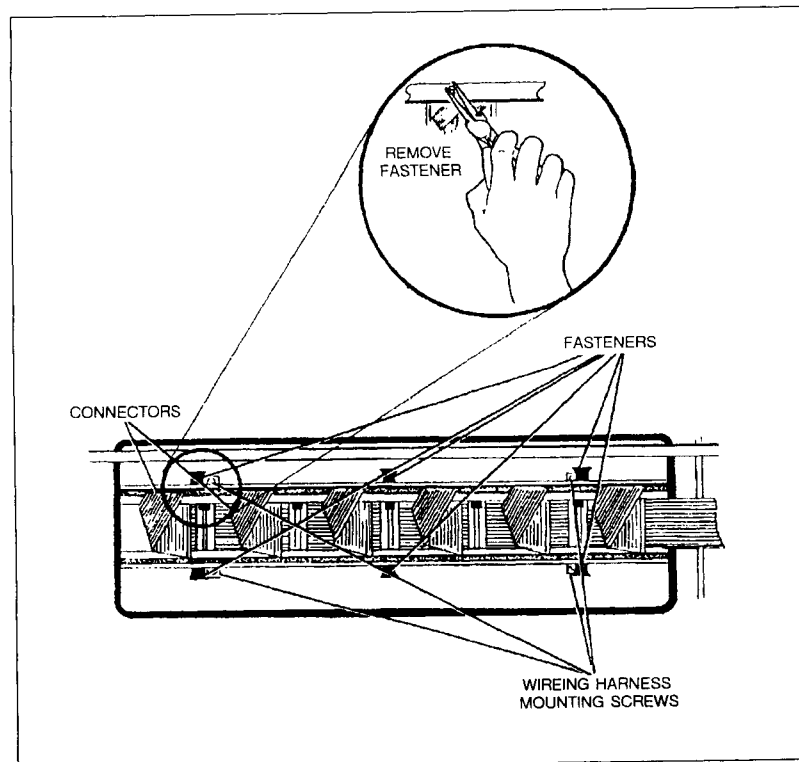

Figure 6-28. Printbar Top View
- a. Switch the printer offline and the ON/OFF switch to the OFF (0) position.
- c. Remove the top and bottom cable harness plates from the top and bottom of the printbar (see Figure 6-28). Use a longnose pliers to reach in and pry up on the three plastic fasteners to release the plate.
- d. Remove the twelve cable connectors from the top of the printbar assembly (see Figure 6-28). To remove, push the connector body toward the center of the printbar with one hand while gently pulling on the cable with the other hand. This relieves the snap locks located in the connector housing.
- j. Install the twelve connectors. Use a blunt-end tool to aid in pushing connectors into place (see detail, Figure 6-28). Listen for a click to ensure they are latched in.